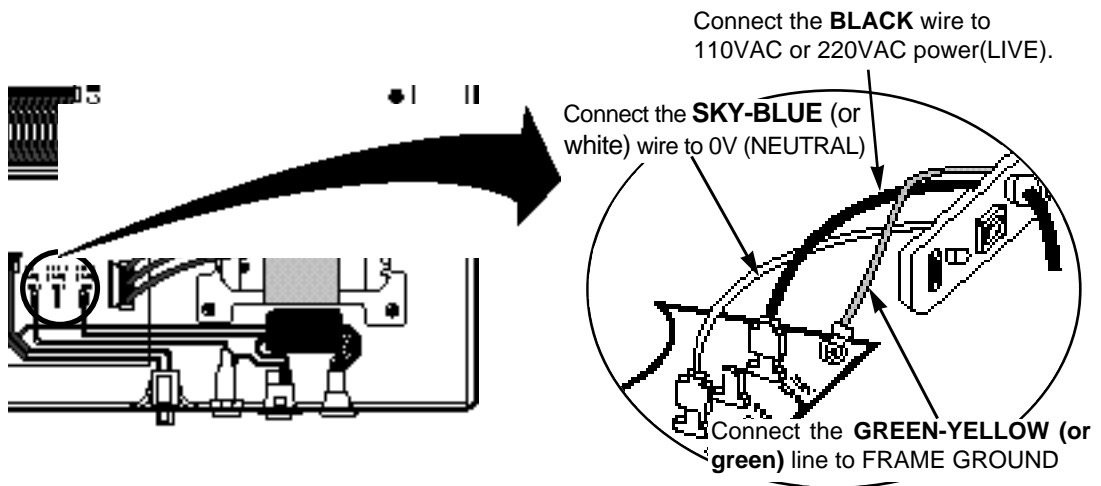

FIGURE 2-2 AC POWER SELECTION
2.3 AC Power Selection (See FIGURE 2-2)